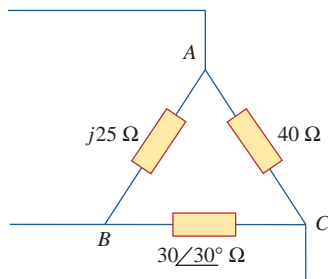

Figure 12.62
12.55 A three-phase supply, with the line voltage 240 V rms positively phased, has an unbalanced delta-connected load as shown in Fig. 12.62. Find the phase currents and the total complex power.